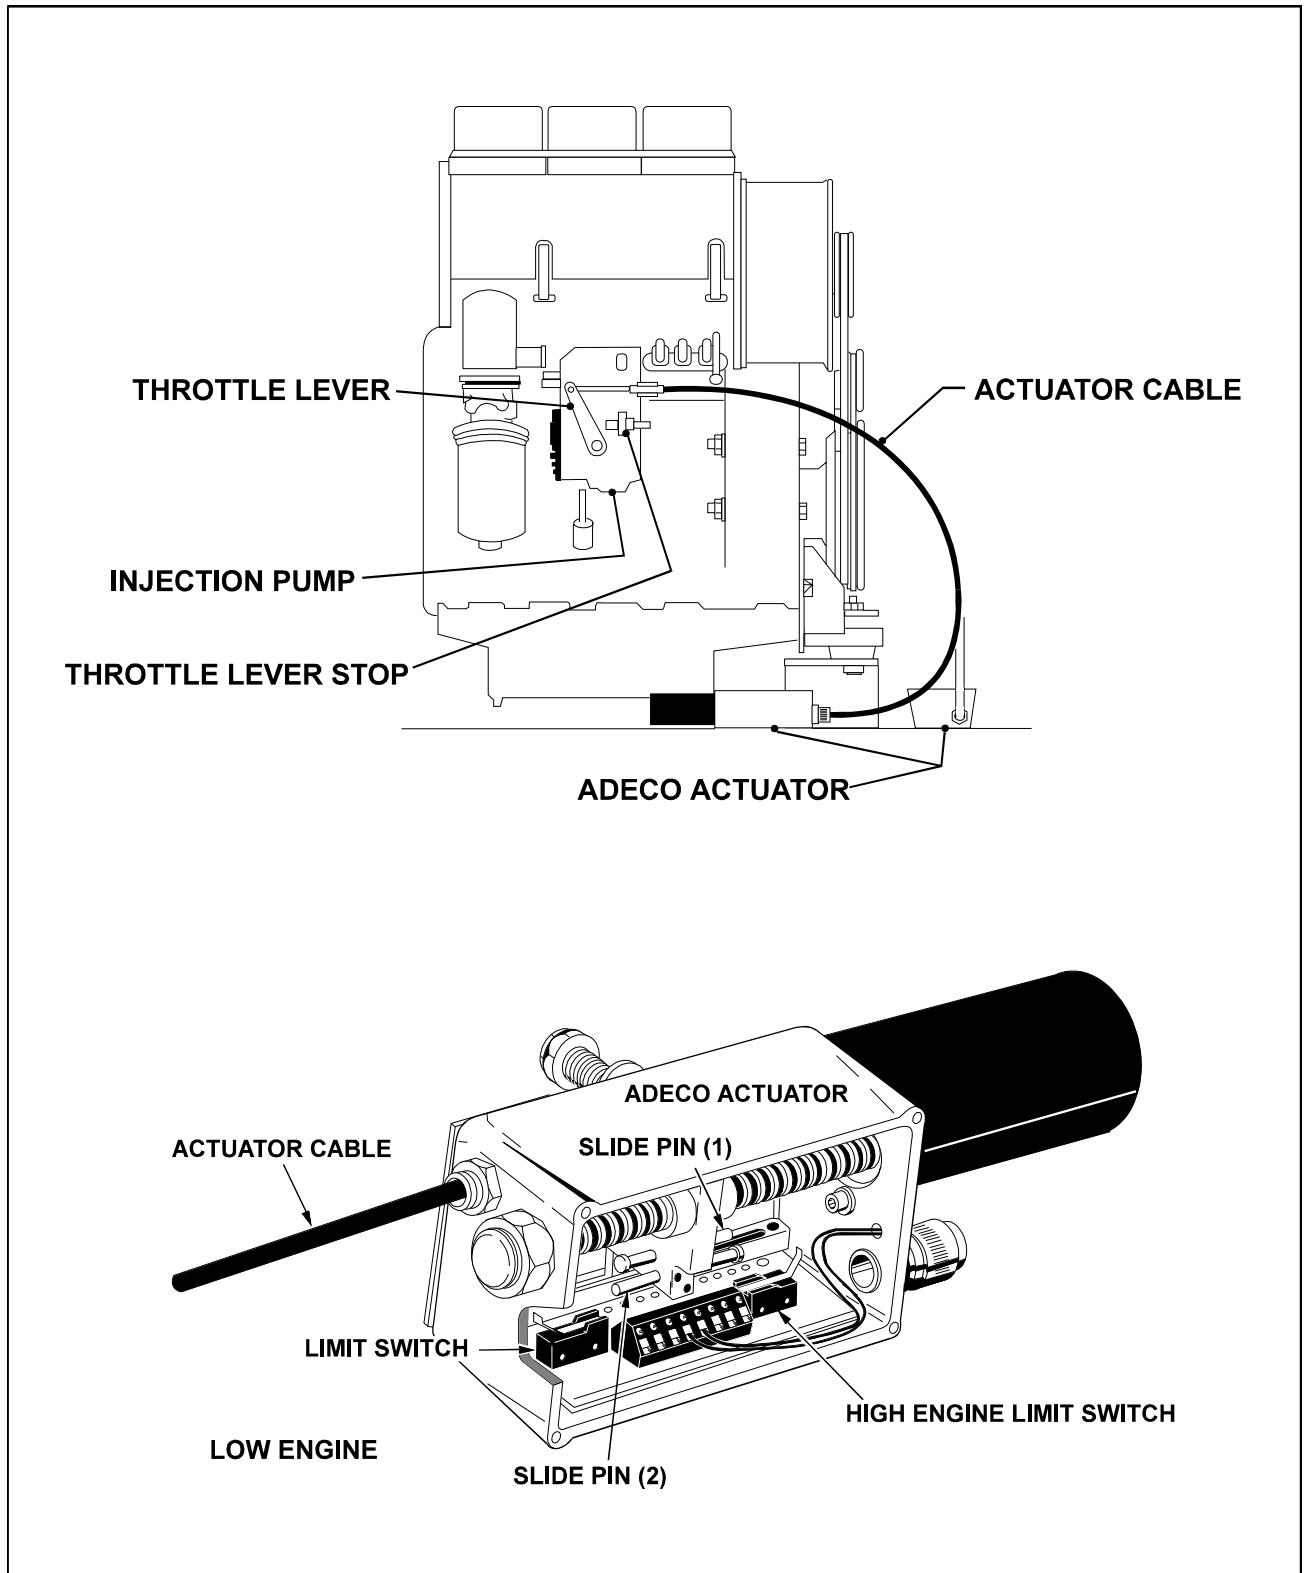

Figure 2-16. Adeco Actuator Adjustments - F4L912
2.15 THROTTLE CHECKS AND ADJUSTMENTS - DEUTZ ENGINE (SEE FIGURE 2-16.)